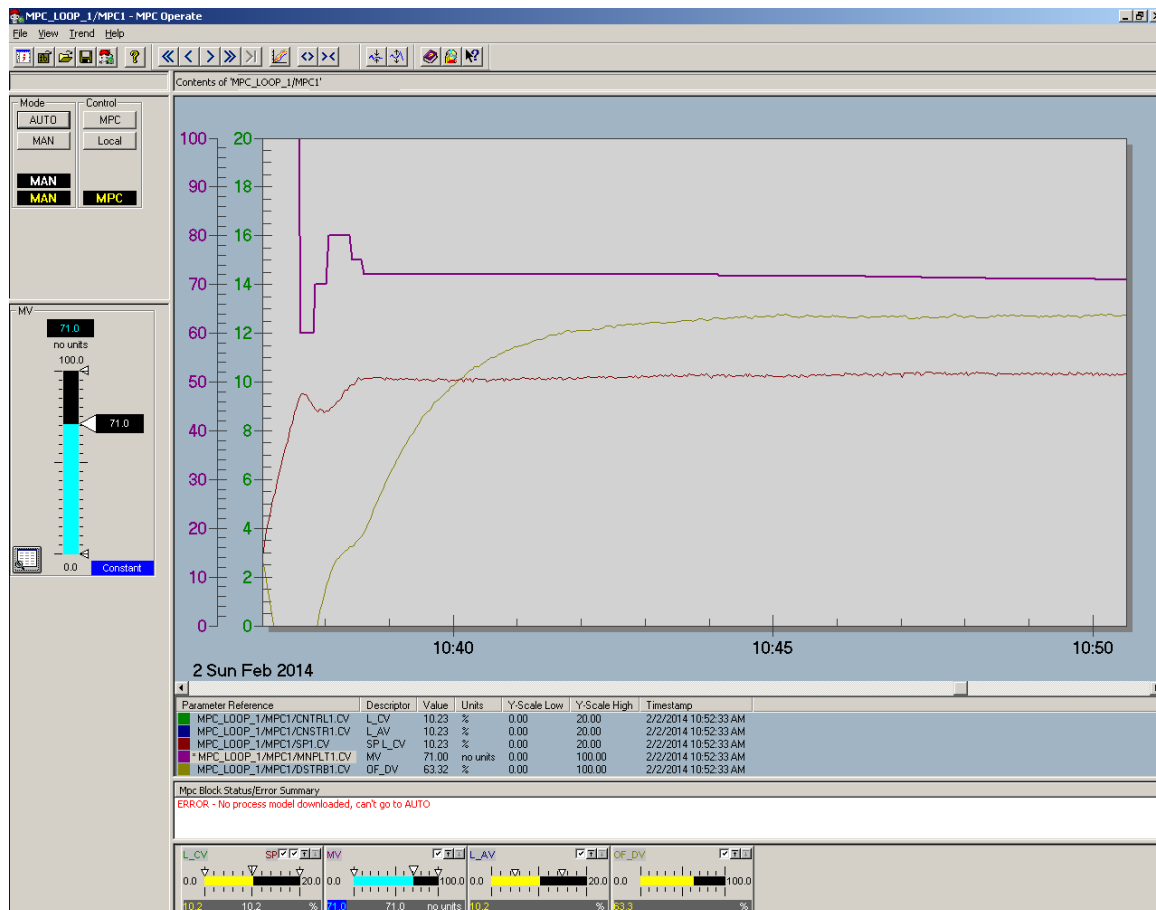

Figure 3.4 Adjusting level manually in MPC Operate.
Start by marking all the parameter check boxes in the bottom of the figure. Click on the manipulated variable (MV). At the left side a slide-bar for the parameter is then shown. Adjust the slide-bar so that the level gets steady and about 10 cm, see Figure 3.4.